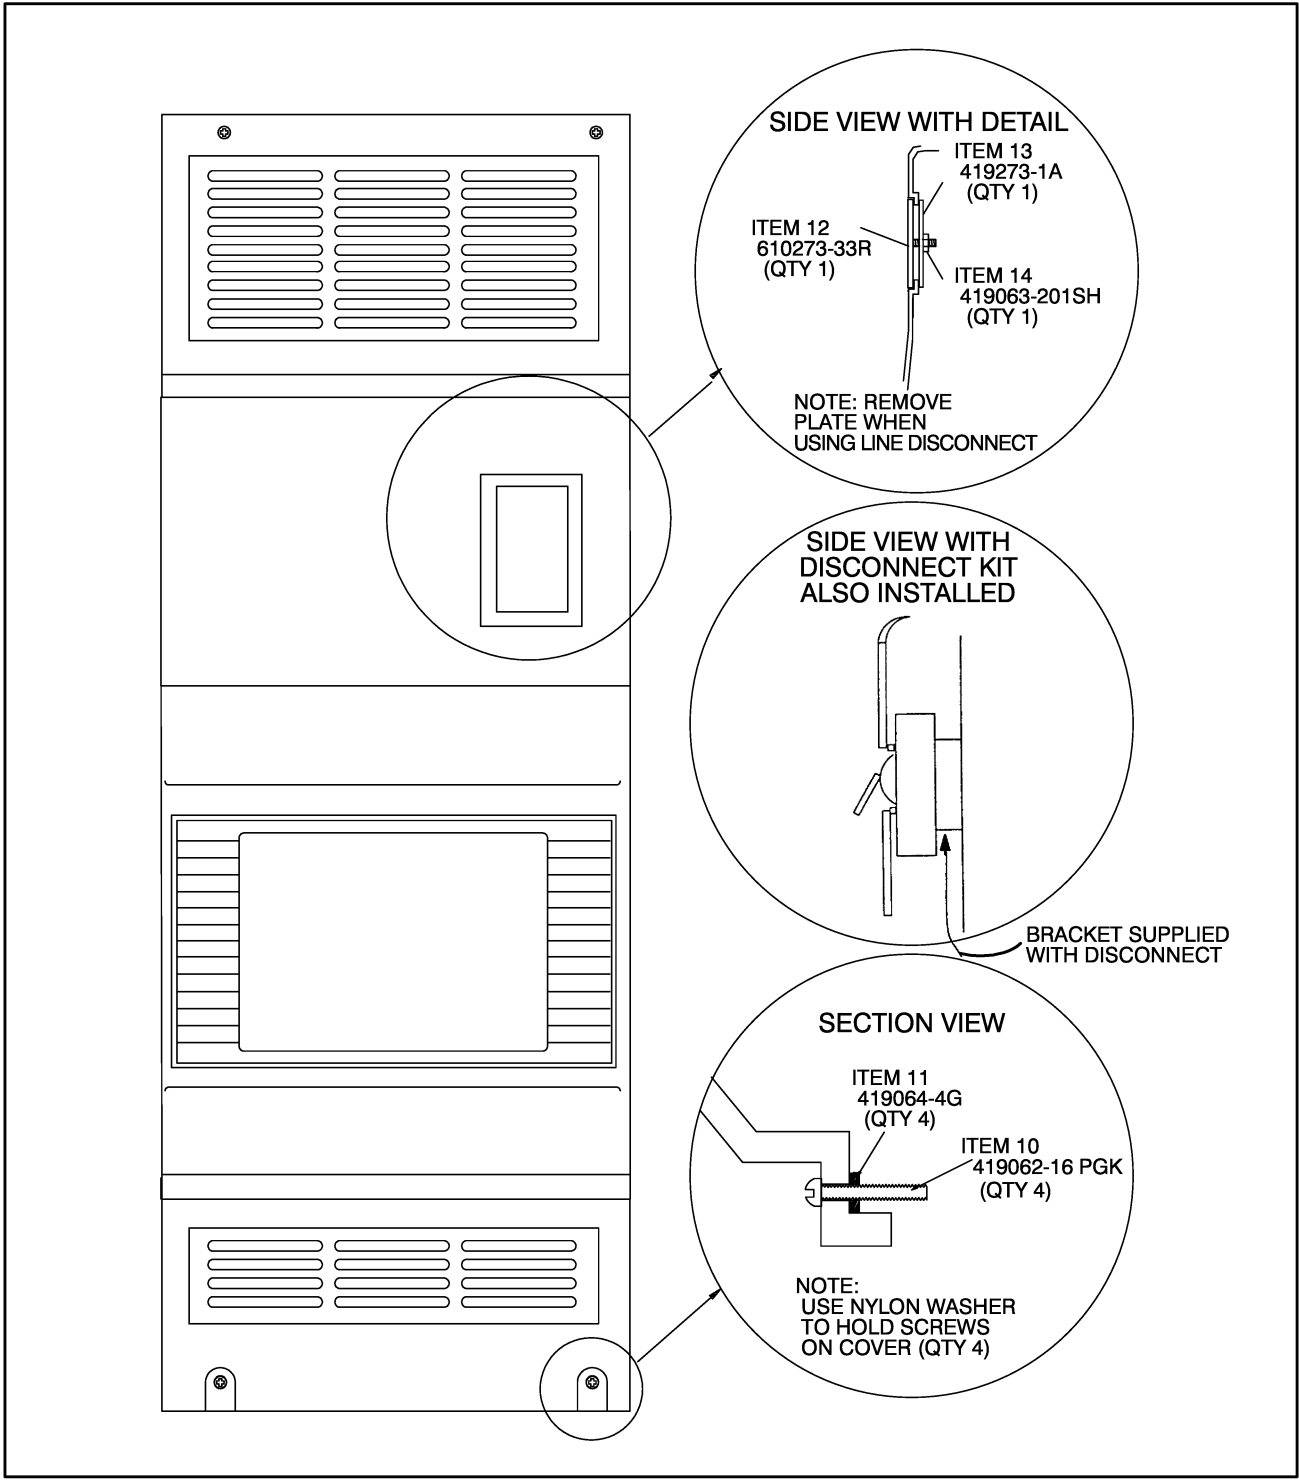

Figure 4 - Assembling the Front of the NEMA 1 Cover
Step 12. Insert the four (4) M4 x 16 pan head machine screws [Item 10] into the NEMA 1 cover [Item 7]. Use the four nylon washers [Item 11] provided in the kit to hold the screws in place. Refer to figure 4.
Refer to figure 4. Remove the M5 hex nut [Item 14], the cover plate [Item 12], and the cover back plate [Item 13] from the NEMA 1 cover. Discard these items. The bracket for the disconnect mount is supplied with the disconnect kit and must be used. See the instruction manual for your disconnect kit for more information.